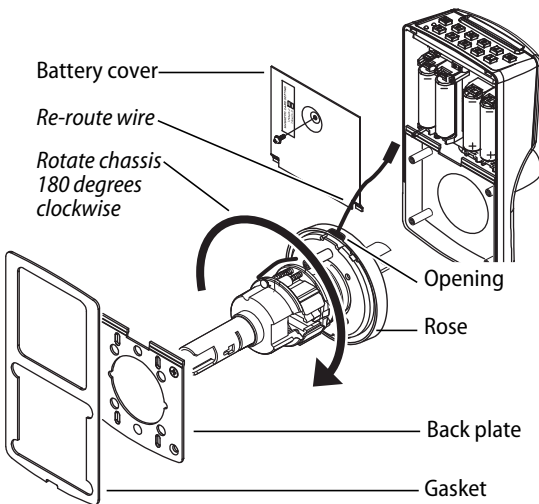

Figure 9 Adjusting the rose liner for the door
- 1 In order: remove the gasket, battery cover, and back plate. See Figure 9.